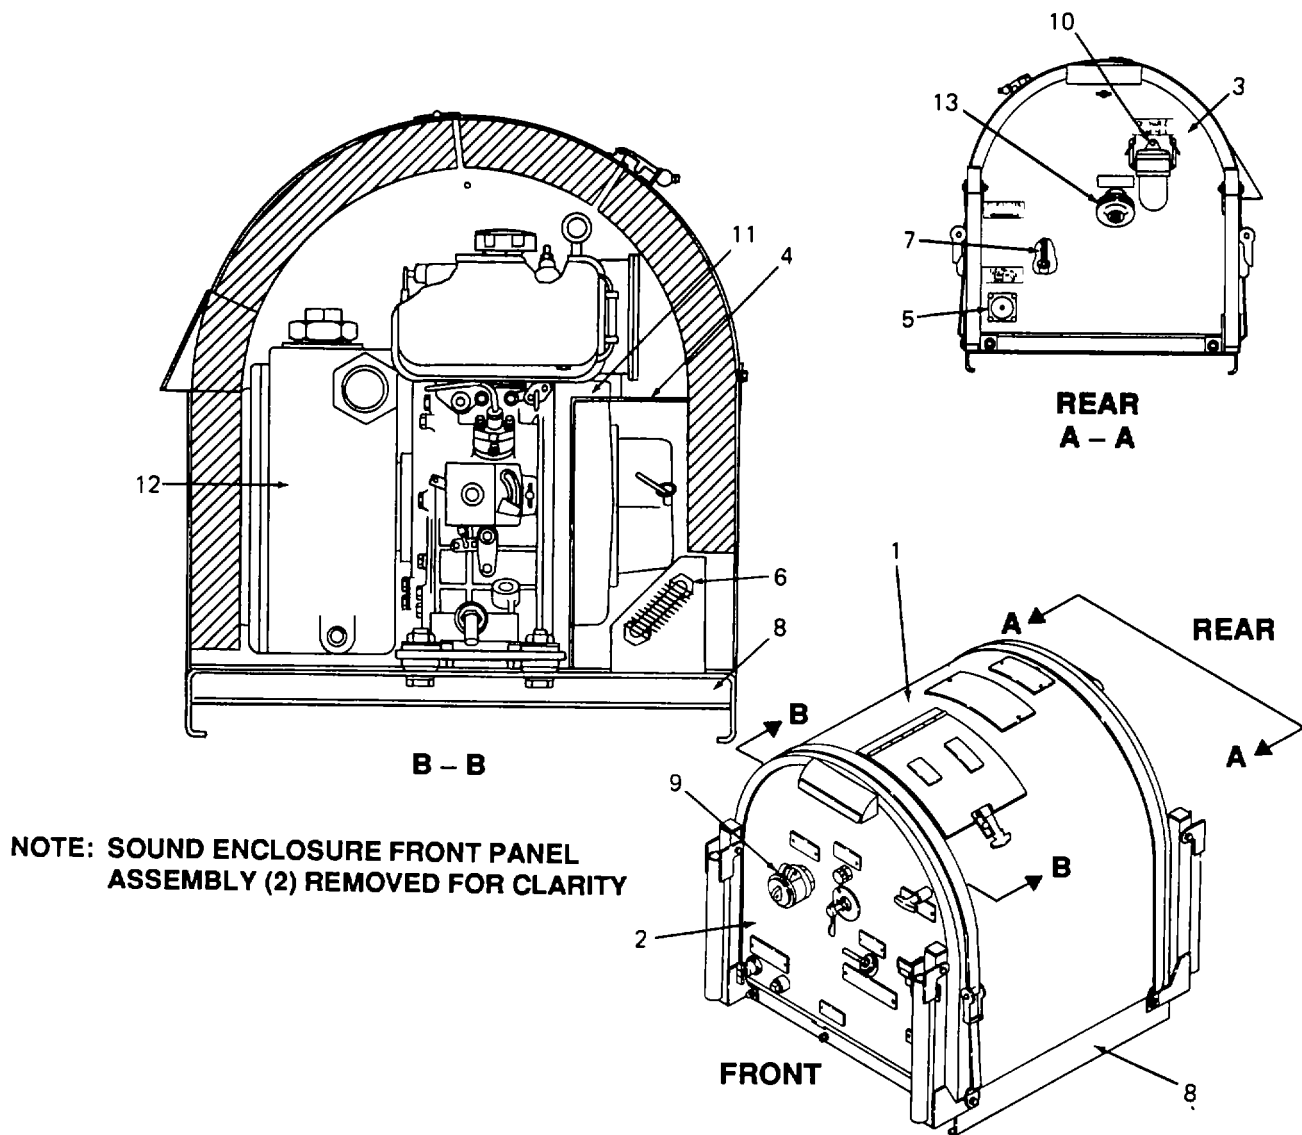

Figure 1-2. Pump Assembly, Major Components
- (7) Ground Rod With Attachments (one each)
- (8) Drum Suction Stub Unloader Assembly (includes stub and a 10 foot long hose assembly) (one each)
- (9) Double Male Y-Connector (one each)
- (10) Double Female Y-Connector (one each)
- (11) Male QD Coupling (one each)
- (12) Female QD Coupling (one each)
- (13) Coupling Gasket (Installed In Female QD Coupling) (one each)
- (14) Pumping Unit Identification Plate (three each)
- (15) Pump Accessories Information Plate (Storage Chest 1) (one each)
- (16) Pump Accessories Information Plate (Storage Chest 2) (one each)
b. Pump Assembly (See Figure 1-2)
(1) Sound enclosure cover This cover combines with the sound enclosure front panel assembly, the sound enclosure rear panel assembly, and the engine air intake baffle to provide noise reduction and direct engine intake air to air cleaner and flywheel fan. The cover contains a hinged door which swings up to provide operator access to the engine decompression lever, fuel tank, and air cleaner The cover can be removed quickly and easily without tools It provides protection for internal components and wiring, and mounting surface for an information plate.